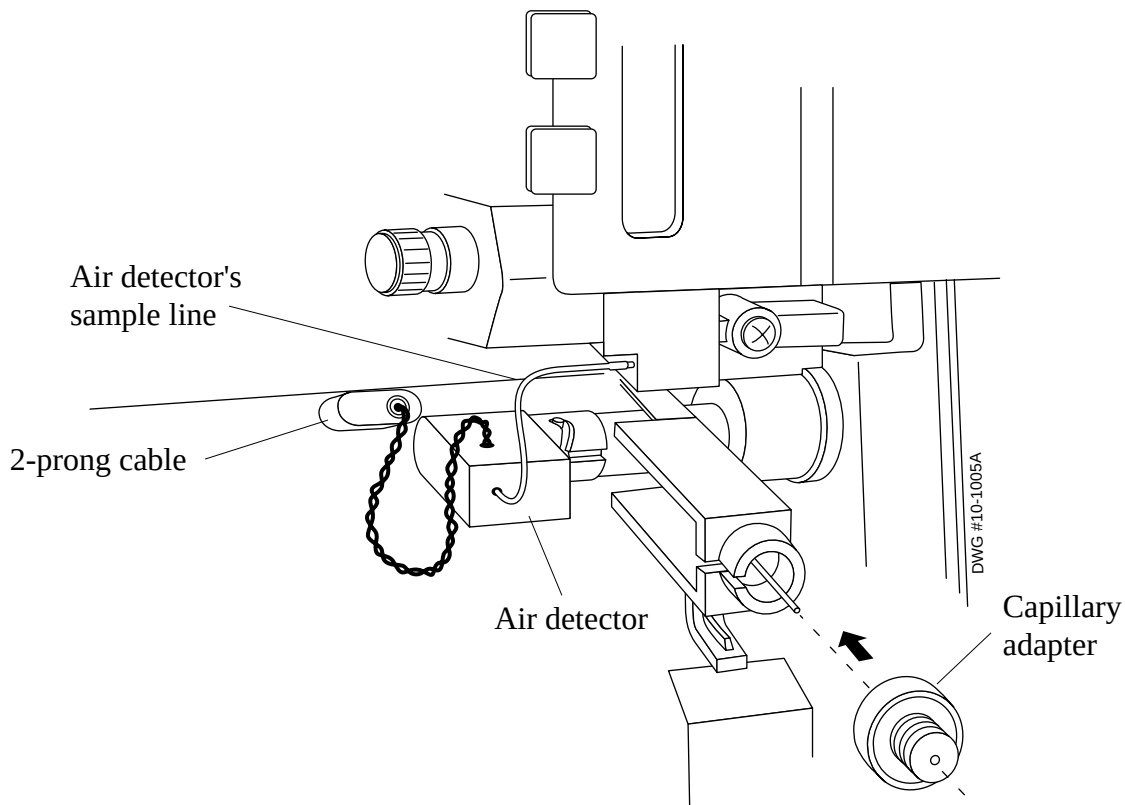

Figure 12.6 Removing Capillary Adapter
3. Remove the capillary adapter from the front of the probe. (See Figure 12.6.)